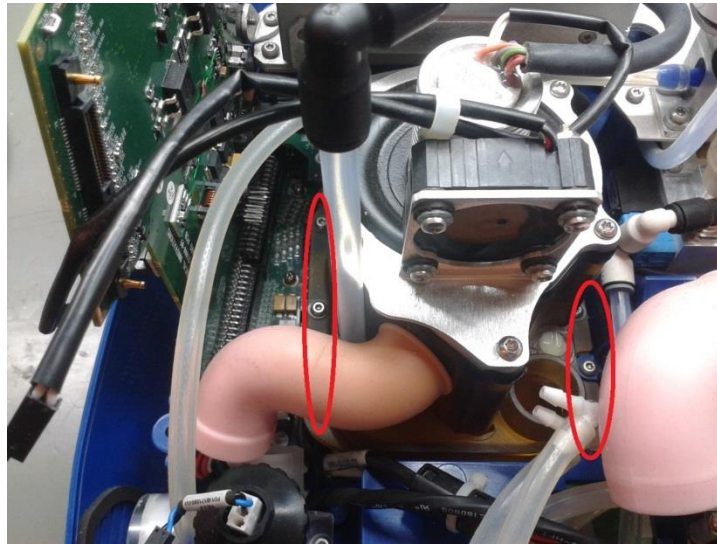

Figure 31- Blower screws
7. Remove the 6 screws (3 on each side) securing the blower to the base – see Figure 31.